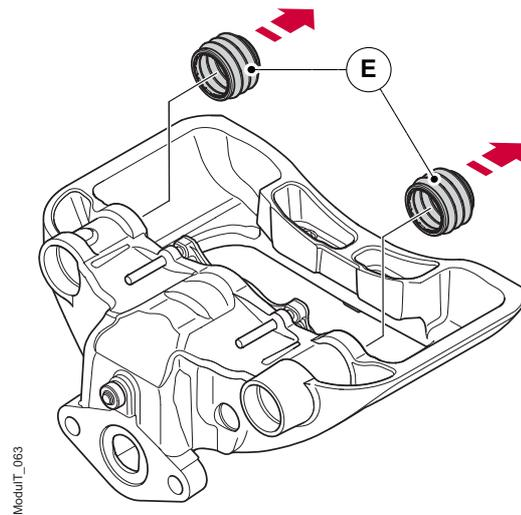

Figure 53. Remove the slide pin bellows.
- By hand, carefully remove the two slide pin bellows (E), see figure 53. If required, use a small screwdriver to assist by levering them out. Be careful not to damage the slide pin bellows sealing surfaces if using a tool to levering out the bellows.